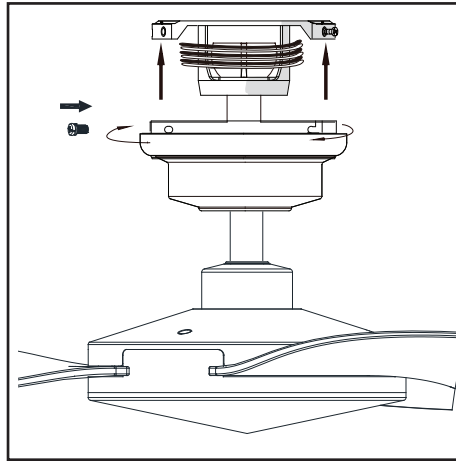

Figure 15
3. Install the decorative canopy ring by aligning the ring's slots with the screws in the canopy. Rotate the ring clockwise to lock in place. (Figure 15)